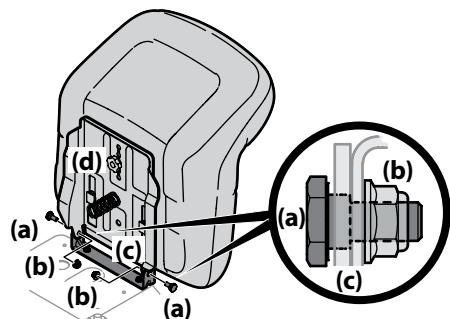

Figure 2-8
4. Using a $\frac{1}{4}$ " drive ratchet with a $\frac{3}{8}$ " socket, secure the seat bracket (a) with the self-tapping bolts (b) removed in step 2. See Figure 2-8.
6. Install the two shoulder bolts (a) and lock nuts (b) removed from the seat mounting bracket (c) in Step 1. See Figure 2-8.
7. To adjust the position of the seat, remove the adjustment knob (d) on the bottom of the seat. Slide the seat forward or backward as desired. Retighten the adjustment bolt (d). Refer to Figure 2-8.